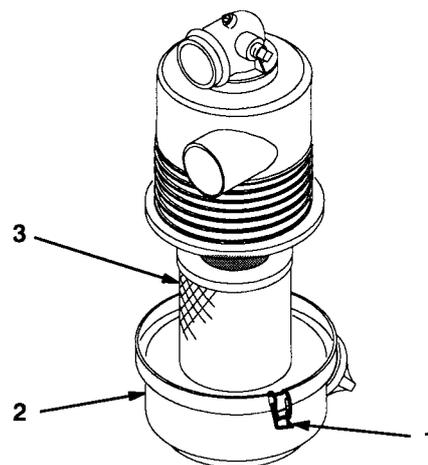

Figure 22
3. Release the latches securing the air cleaner cover to the air cleaner body. Separate the cover from the body. Clean the inside of the air cleaner cover (Fig. 22).
4. Gently slide the filter out of the air cleaner body to reduce the amount of dust dislodged (Fig. 22). Avoid knocking the filter against the air cleaner body.